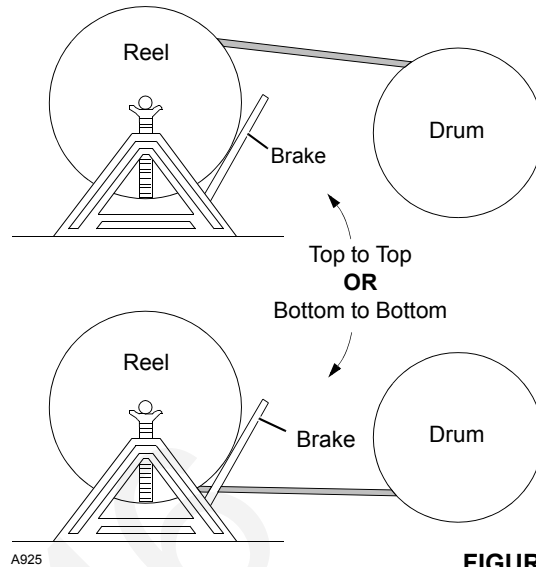

FIGURE 4-46
2. Provide a brake at shipping reel (see Figure 4-46) so wire rope can be wound tightly onto drum.
3. **Avoid a reverse bend when winding wire rope onto drum:** wind from top of reel to top of drum or from bottom of reel to bottom of drum as shown in Figure 4-46.